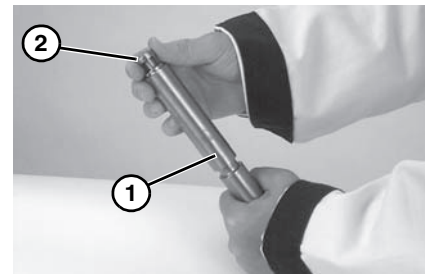

Figure 60
2. Inspect spindle (**Figure 60, item 1**). Replace if worn.
3. Slide bearing (**Figure 60, item 2**) onto spindle.